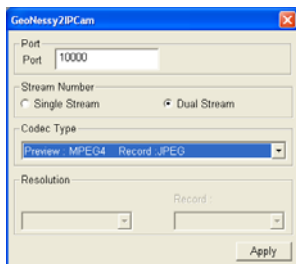

Figure 7-5
- Preview dual stream record channel:** The option is only available when the dual stream is set, i.e. the cameras for live view and recording are configured differently (see Figure 7-5). Check this option for recording preview.